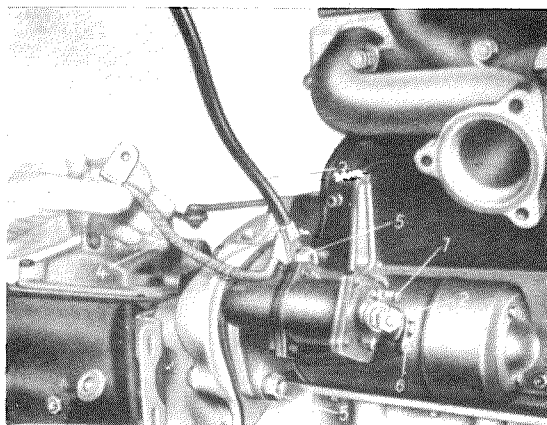

Fig. 15 — 2/1
2. Remove the battery cable 30 and cable 51 at the contact terminal (2) of the solenoid switch (Fig. 15 — 2/1). The rubber cover cap must be pushed back beforehand. Disconnect the control cable at terminal 50 (7).